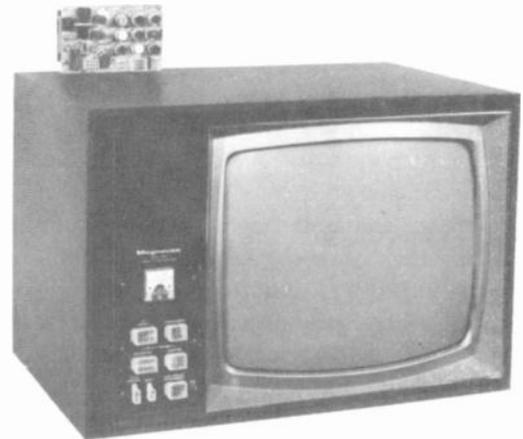

FIGURE 28-3 TEST JIG WITH COLOR PICTURE TUBE. (MAGNAVOX CO.)
**Picture tube test jig.** As shown in Fig. 28-3, this unit has a color picture tube, with all its associated circuits, to operate the receiver chassis on a test bench in the service shop.